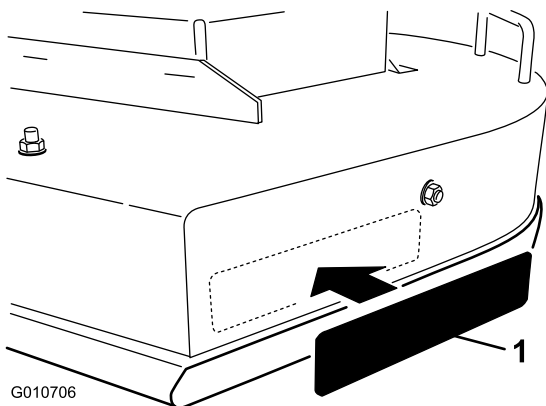

Figure 6
16. Remove the backing paper and apply decal to the discharge side of the mower (Figure 6). Smooth it from the center to the edges to remove any air bubbles.